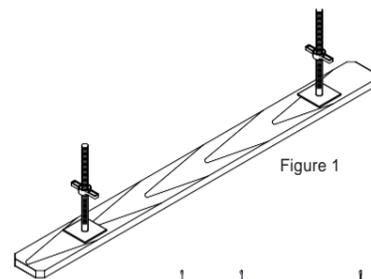

Figure 1
**1** Before commencing the erection of any CUPLOK scaffold, care should be taken to check that the ground is suitable and clear of loose rubble to provide a stable base and clear access for erection. The scaffold must be erected on adequate soleplates and the foundation on which the soleplates are placed must have sufficient bearing capacity to support the imposed loads transferred from the scaffold. As a general rule, each soleplate should be long enough so that it supports at least two Standards. Bricks or masonry blocks are not suitable and must not be used. Refer Figure 1.